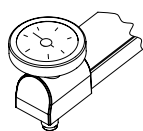

Fig.1
- External scale thermometer (Fig. 1) with internal probe for fluid temperature.